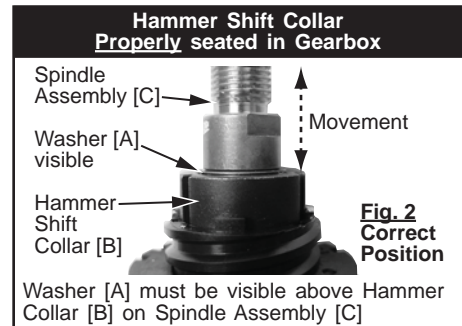

Fig. 2 Correct Position
● Washer [A] visible above hammer shift collar, (fig. 2).
Rotate shift collar left or right by hand until it drops into position shown in (fig. 2). The washer must be visible, and the .160 wide shift collar notch [1] must be in-line or slightly left of top 12 o'clock position, as viewed from the front of the gearbox.
- Align hammer icon **T** on clutch collar [A] with drill bit icon **⚡** on collar [B], fig. 2.
- Turn clutch ring assembly to position shown in fig. 2 to view internal clutch ring posts [C,D,E] for correct position prior to assembling clutch ring to gearbox.